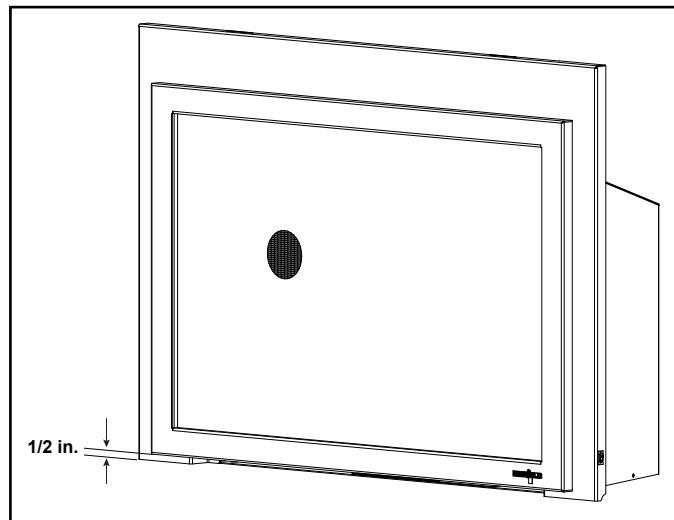

Figure 3.18 Minimum Required 1/2 in. Gap to Bottom of Front
- 1/2 inch gap under the bottom of the front must be maintained. See Figure 3.18.